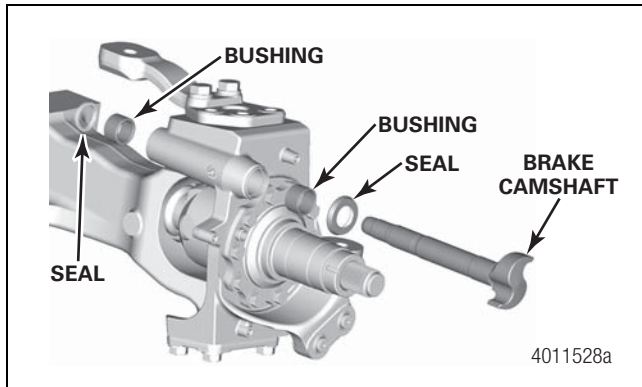

Figure 7.10
4. If removed, install a new camshaft bushing and grease seals into the knuckle. Install the brake camshaft. Figure 7.10.